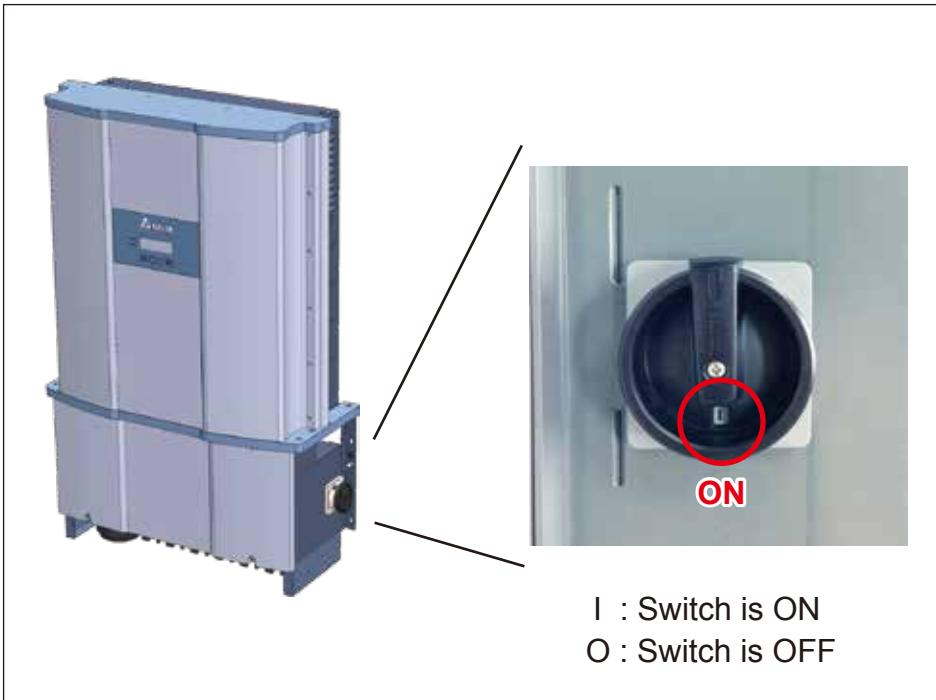

Figure 5-11 : The ON/OFF positions of DC Switches (M88H_122 only)
3. **Figure 5-11** shows the correct way to turn off the DC switches.